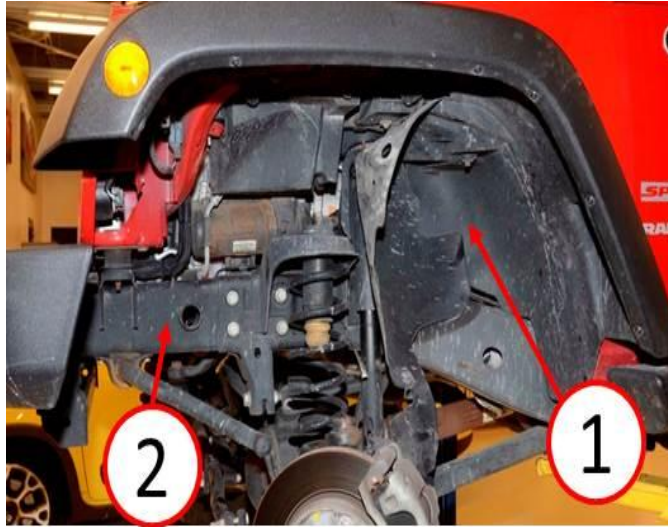

Fig. 1 Splash Shield
2. Partially remove the left front wheel liner to gain access to the transmission oil cooler tube and power steering return tube (Fig.1).